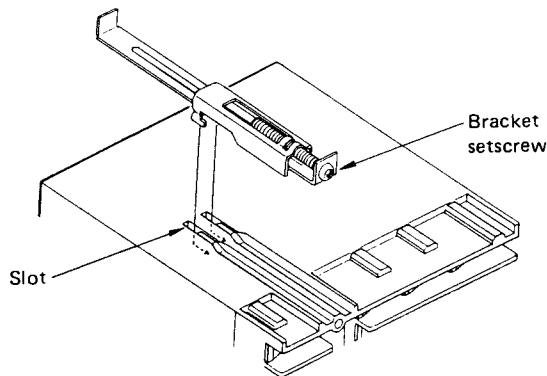

Fig. 1
- ① Mount the panel cutout corresponding to the number of units on the panel by referring to panel cutout dimensions.
- ② Insert the instrument into the panel from the front side.
- ③ Engage each mounting bracket with the bracket insertion slots (Fig. 1).